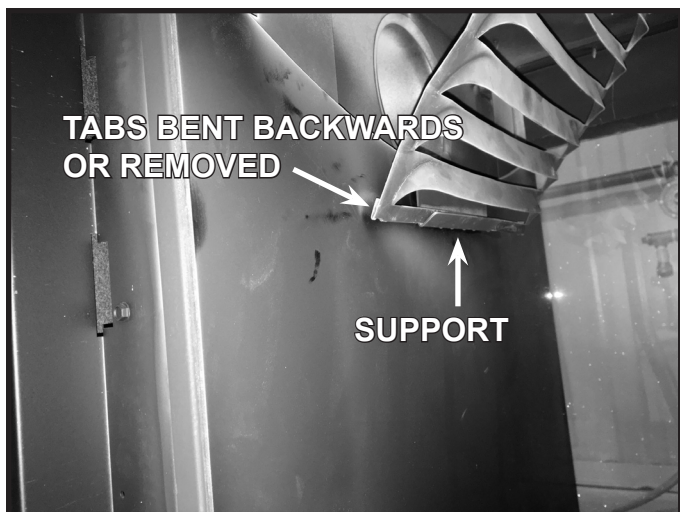

Figure 5. Exhaust Baffle Support and Tabs
13. Flatten the tabs on the exhaust baffle. They may be bent backwards or removed. See Figure 5.